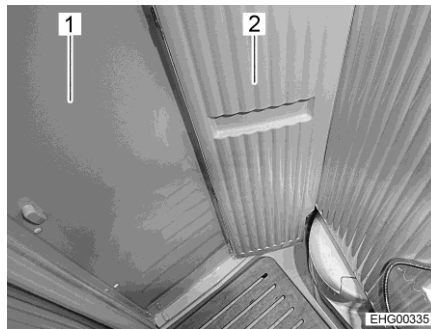
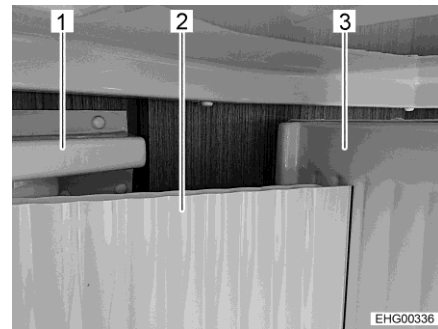

Fig. 166 Small swivel wall, swivelled
Fig. 167 Correct position of the small swivel wall
- Close the bathroom unit door (Fig. 166,1 and Fig. 167,1).
- ▷ **Always** position the small swivel wall (Fig. 166,2 and Fig. 167,2) in front of the large swivel wall (Fig. 167,3). Do **not** press the small swivel wall to the position **behind** the large swivel wall. Otherwise, there is the risk to be trapped in the bathroom unit because it is no longer possible to open the bathroom unit door.
- Swivel small swivel wall (Fig. 166,2 and Fig. 167,2). The small swivel wall is in its correct position if it is positioned in front of the large swivel wall (Fig. 167,3).